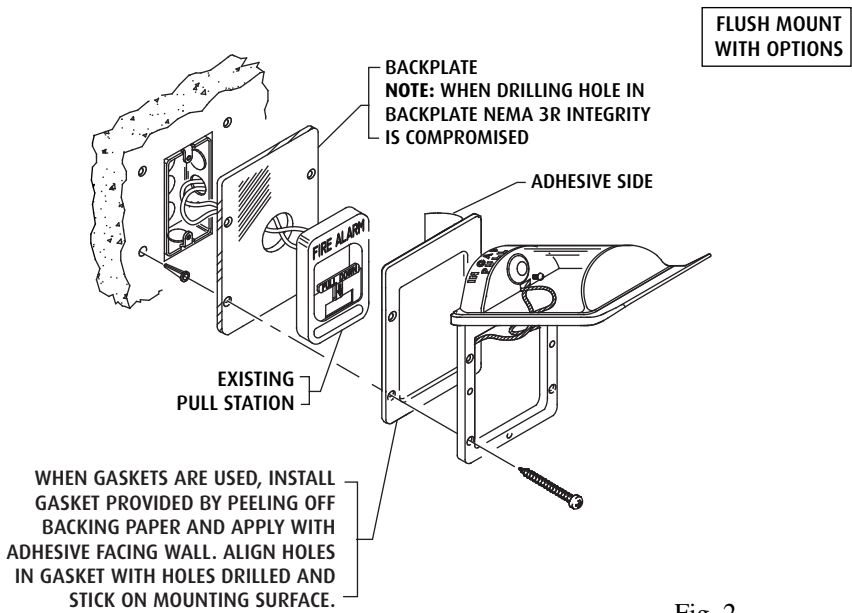

Fig. 2
2. If using STI-1280 backplate, refer to Fig. 2 and 3 for install instructions depending on your application. **NOTE:** When drilling hole in backplate NEMA 3R integrity is compromised.
- NOTE:** When using STI-3100 spacer, be sure to install conduit knockout, any additional ventilation and gaskets before you tighten to the wall. When using conduit gasket STI-3004, place gasket around conduit in proper location and install the spacer. For added protection a bead of silicone may be applied to conduit fitting and between STI-1280 backplate and wall (Fig. 3A). Refer to exploded view of flush and surface mount installation options Fig. 2 and 3.